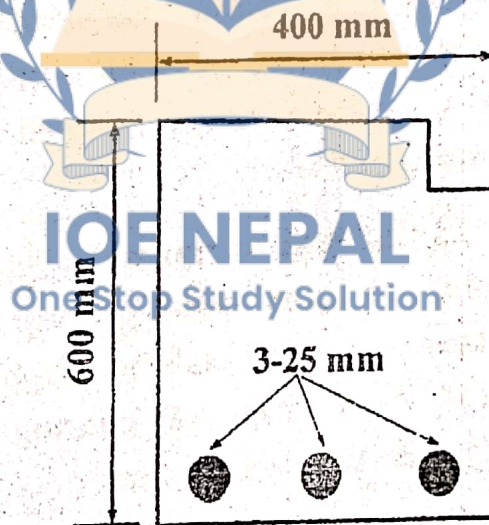

Fig. 1(a)
- 1(a) A singly reinforced concrete beam 40cm×60cm has a 8 cm wide and 8cm deep groove in the compression side [Fig. 1(a)] and 3-25 mm diameter reinforcement. Determine: (i) position of NA and (ii) maximum compression and tensile stresses when it is subjected to a bending moment of 80 kN-m. Take $\sigma_{cbc} = 7 \text{ N/mm}^2$ and $\sigma_{st,per} = 130 \text{ N/mm}^2$, $m=13.33$. 10